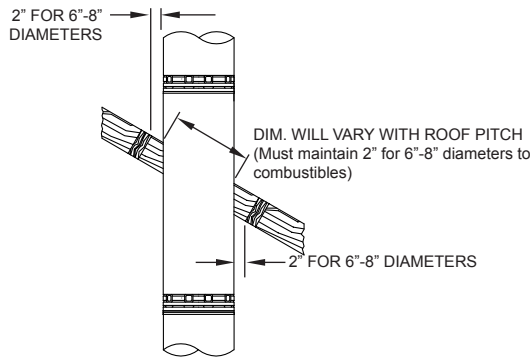

FIG. 22
1. Continue the TG chimney to the roof. Cut the roof opening, centered over the chimney. A 2 inch airspace around the chimney is required as it penetrates the roof. The size of hole in the roof will vary depending on the roof pitch. Install the next TG chimney section through the roof (See FIG. 22).